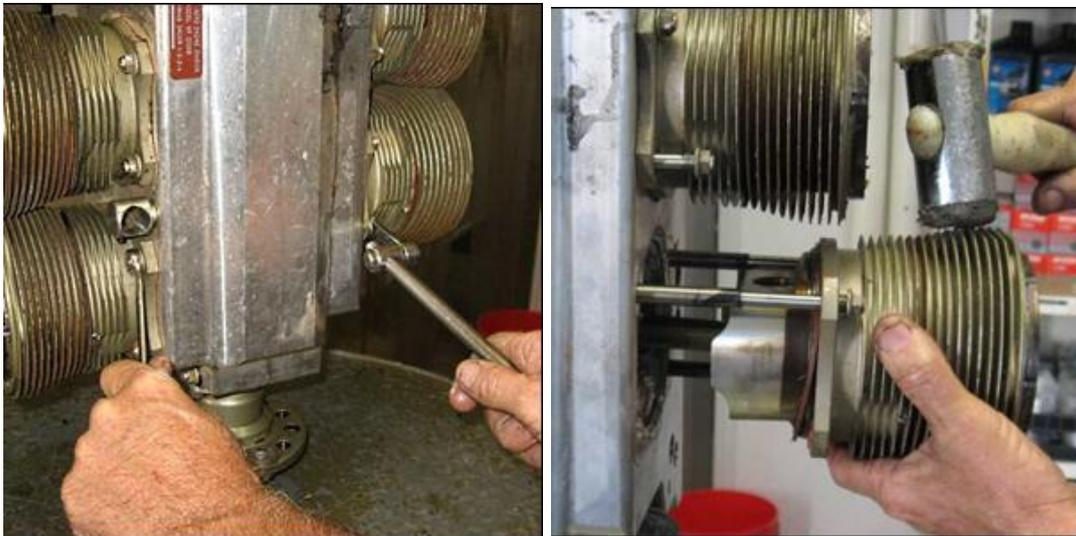

Figure 54 – Remove Cylinders
- Undo the base nuts from each cylinder pair until one nut can be removed from the cylinder stud and then pull each cylinder off of the piston as shown in Figure 54. Note that these through bolts and studs are normally replaced at overhaul – see Section 5 for details.